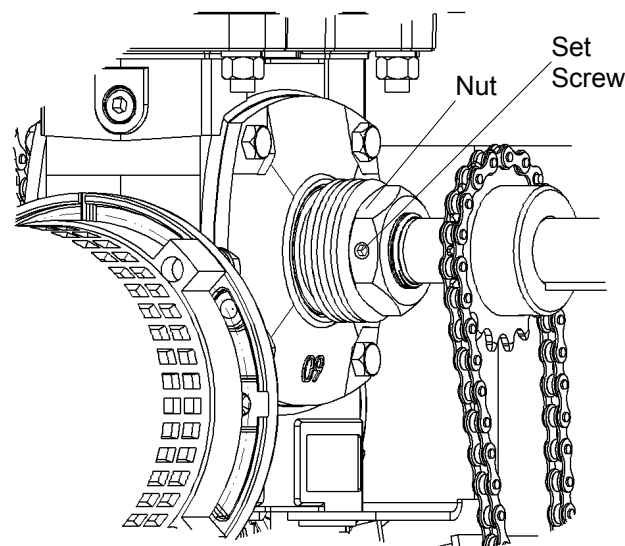

Figure 28 - Clutch Adjustment
1. Loosen clutch set screw, refer to Figure 28.